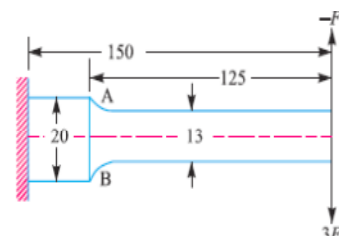

Fig. 4
- OR iv. A cantilever beam made of cold drawn carbon steel of circular cross-section as shown in Fig.4, is subjected to a load which varies from $-F$ to $+3F$. Determine the maximum load that this member can withstand for an indefinite life using a factor of safety as 2. The theoretical stress concentration factor is 1.42 and the notch sensitivity is 0.9. Assume the following values : Ultimate stress = 550 MPa ; Yield stress = 470 MPa; **5**